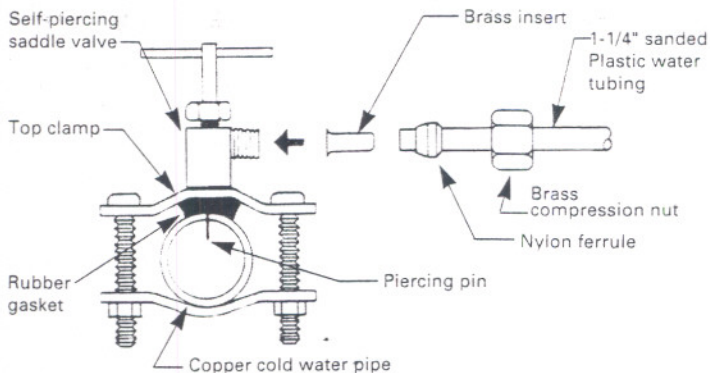

FIG. 12
4. To pierce the copper pipe, simply turn valve handle clockwise until you feel that it is firmly seated. (Fig.12)
onto the sanded plastic tube and fit the **brass insert** in the end of the tubing. (Fig.12)